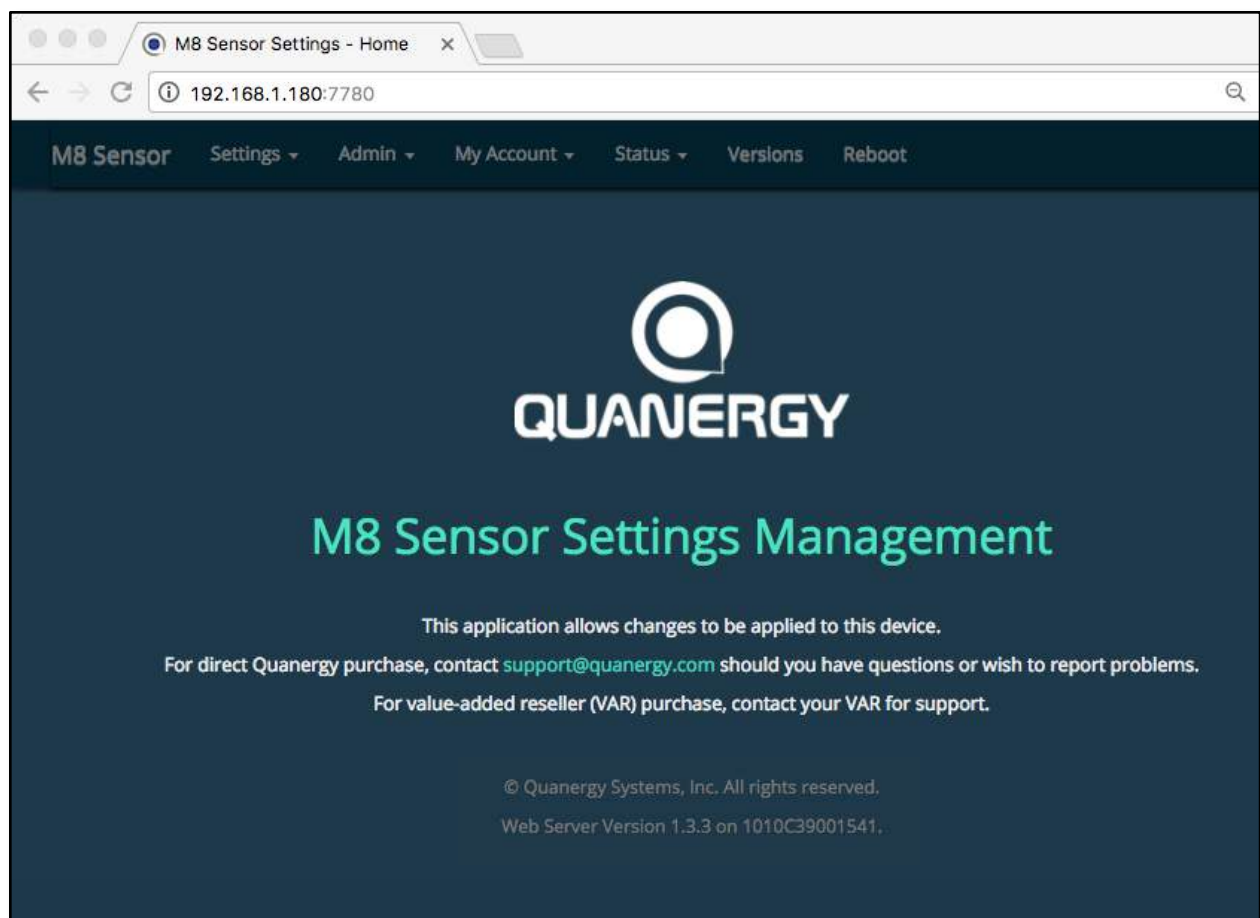

Figure 27. Web Server: M8 Sensor Tab's Welcome Mode
The navigation bar across the top of each page in the Sensor Settings Management application offers several tabs: *M8 Sensor*, *Settings*, *Admin*, *My Account*, *Status*, *Versions*, and *Reboot*, as shown in Figure 27.
- Welcome mode (Figure 27): states important user notes as explained below.
2. Press the Enter key, or click the *Login* button. Login mode disappears from the M8 Sensor tab, and the welcome mode (Figure 27) appears instead.
After the Sensor Settings Management web server accepts the login credentials, the M8 Sensor tab displays a welcome banner (Figure 27) that names the site's purpose and offers methods for getting support.